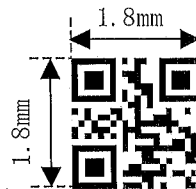

Fig.13-1: 2 dimension Bar Code
①	2 dimension Bar Code	QR Code (1.8mm(H)×1.8mm(V)) *1)
②	Model No.	The first two characters "KA" represent the model name, and the third character represents a supplement character
③	Product plant	"D1K" indicates SHARP MIE KAMEYAMA PLANT
④	Product year	Display the last digit of Christian Era as a production year
⑤	Product month	Display product month (Display "A", "B" and "C" as to "Oct", "Nov" and "Dec")
⑥	Panel No.	The individual number of the panel
*1) 2 dimension Bar Code is shown in Fig.13-1